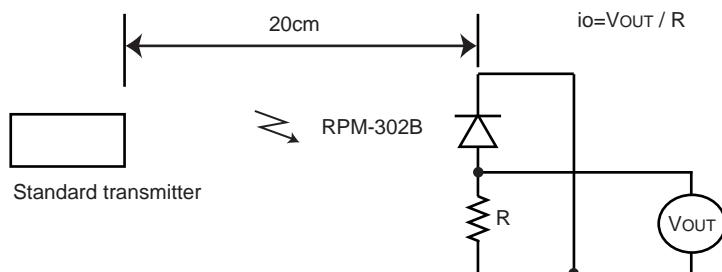

Fig.2 Measurement of standard transmitter proofreading
When standard transmitter output the signal at Fig.1 standard photodiode output become $io=5\mu A$ under the measurement condition Fig.2.
(1) All characteristics of the receiver in this specification are specified by supplying burst wave form (Fig.1) with ROHM standard transmitter (Fig.2).